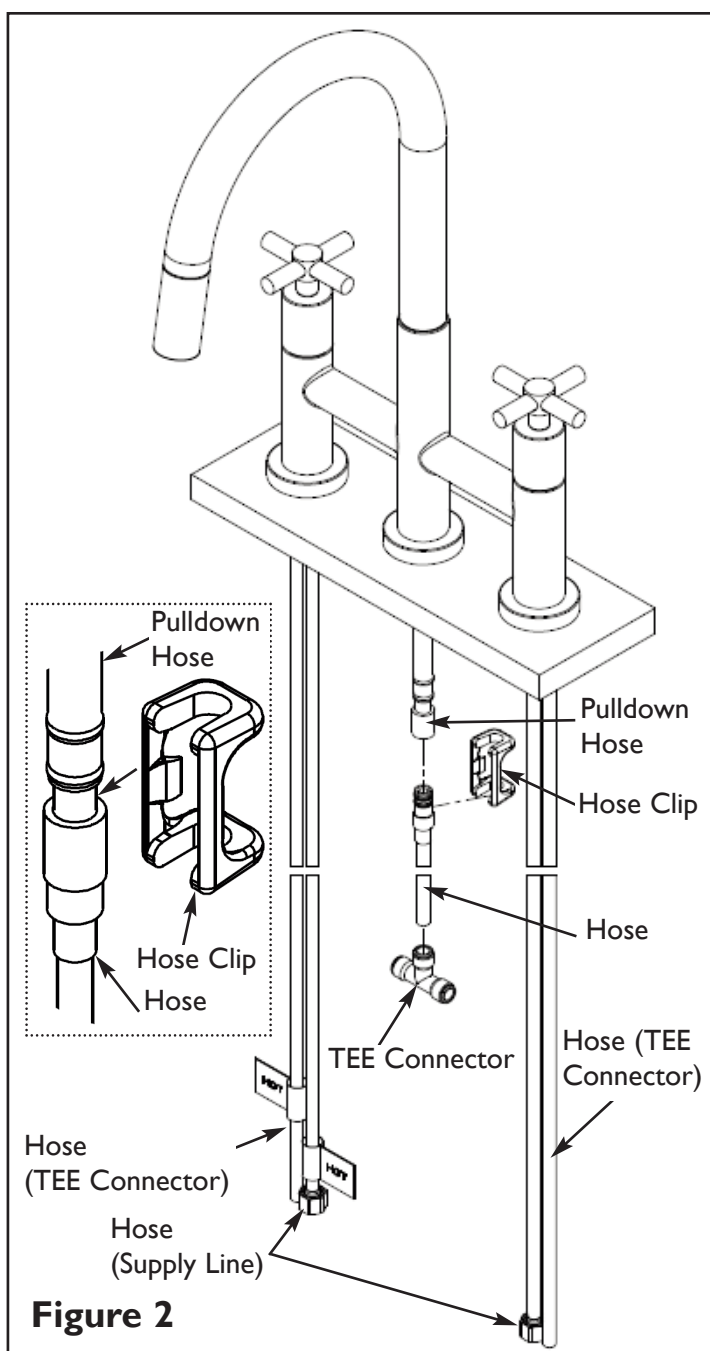

Figure 2
2. Connect the HOSE (4) to the TEE CONNECTOR (5) and connect them to the PULLDOWN HOSE (6). Attach HOSE CLIP to the connection between HOSE and PULLDOWN HOSE. See **Figure 2**.